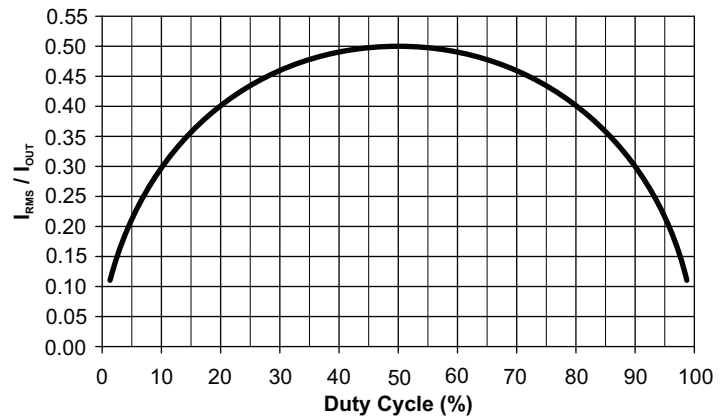

Figure 15: Input Capacitor Ripple vs. Duty Cycle
where the duty cycle D is $D \approx V_{OUT} / V_{IN}$. Figure 15 shows the normalized input capacitor RMS current versus duty cycle. To use this graph, simply find the operational duty cycle (D) on the x-axis and determine the input/output current multiplier on the y-axis. For example, at a 20% duty cycle, the input/output current multiplier is 0.40. Therefore, if the regulator is delivering 2.6 A of steady-state load current, the input capacitor(s) must support 0.40×2.6 A or 1.04 A_{RMS}.